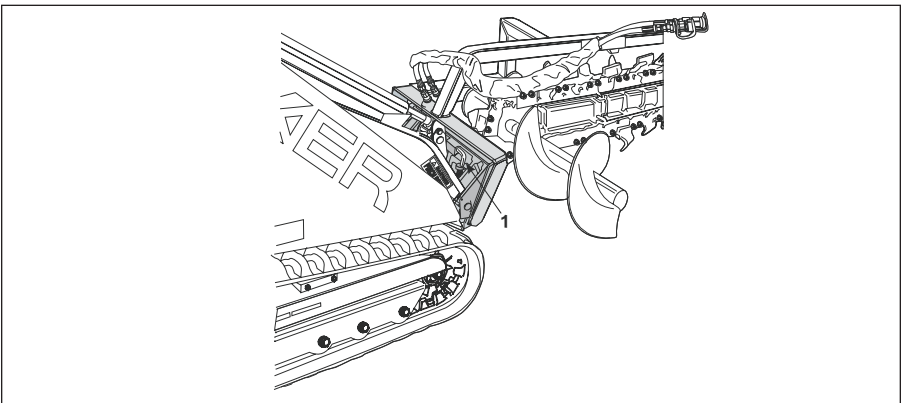

Figure 3-33 Hydraulically Powered Attachment Installed
5. When the machines mounting plates top edge is seated in the attachment mounting plate, tilt the machines mounting plate backwards slightly to allow the lower edge of the machines mounting plate to slide into position. See Figure 3-33.